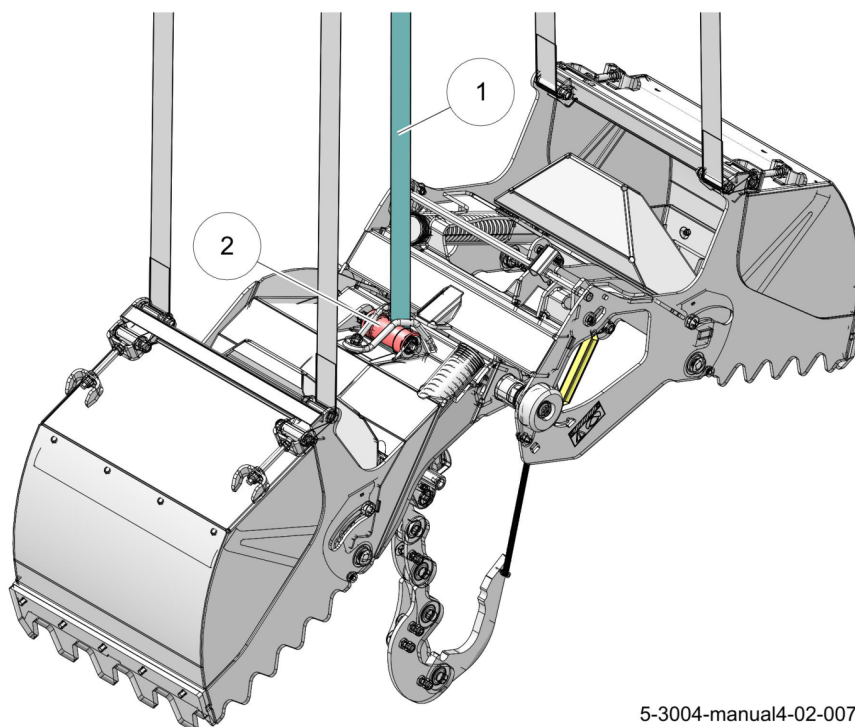

**Figure 71. Position a metal block underneath the limitation bracket**
3. To lock the position of the jaws, install a metal block (2) with a thickness of 10–20 mm underneath the limitation bracket (1) (see figure 71 on page 7-27). Use for example a hammer head with the correct thickness as a metal block.
7. While pushing the activation handle (5) downwards, put the end link (2) over the groove of the top pin (1).
8. Remove the metal block (2) (see figure 71 on page 7-27).